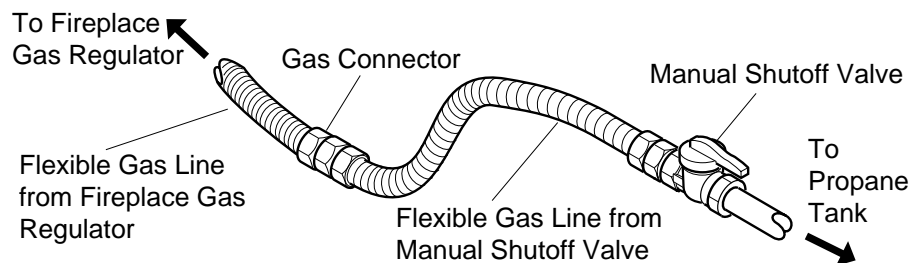

Figure 19 - Attaching Flexible Gas Lines Together
5. Apply pipe joint sealant lightly to male threads of gas connector attached to flexible gas line (see Figure 19). Connect flexible gas line to flexible gas line attached to gas regulator of fireplace (see Figure 19).